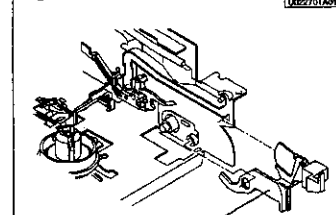

Fig. 2-28-1
- 1 Remove the F/L DOOR ARM shown in Fig. 2-28-1.
- 1 Install the F/L DOOR ARM shown in Fig. 2-28-1.